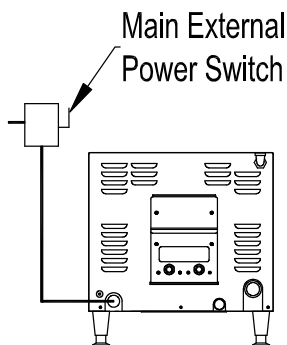

Figure 3-12
1. Install a main disconnect switch and a separate fuse or breaker for this appliance as shown in Figure 3-12. The fused disconnect switch is called the “Main External Power Switch.”